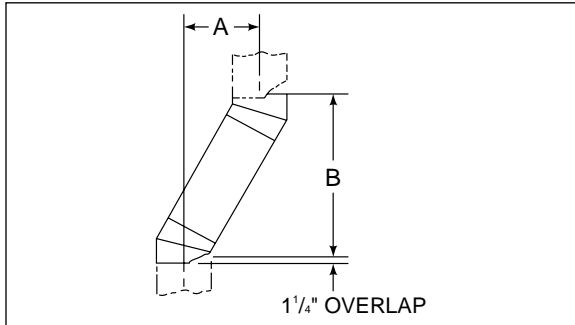

Figure 8
- Measure how far the chimney needs to be shifted to enable it to avoid the overhead obstacle. See Figure 8, dimension "A".
Example: Your "A" dimension from Figure 8 is 14½". Using Table 1, the dimension closest to but not less than 14½" is 14¾" using a 30° offset/return. It is then determined from the table that you would need 33" (Dimension "B") between the offset and return. The chimney components that best fit your application are two [2] SL312's.